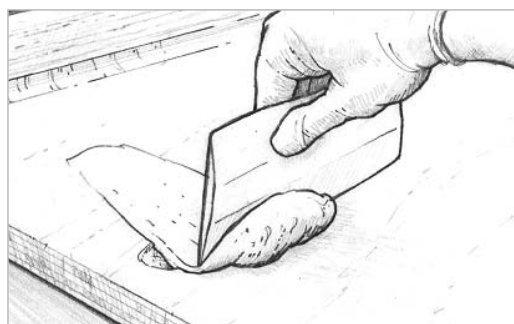

Figure 9-15 Trowel the thickened epoxy fairing compound into the voids and depressions with a plastic spreader.
4. Trowel on the thickened epoxy mixture with a plastic spreader, working it into all voids and depressions. Smooth the mixture to the desired shape, leaving the mixture slightly higher than the surrounding area (*Figure 9-15*). Remove any excess thickened epoxy before it cures. If the voids you are filling are over ½" deep, apply the mixture in several applications or use 206 Slow Hardener or 209 Tropical Hardener, depending on ambient temperature.